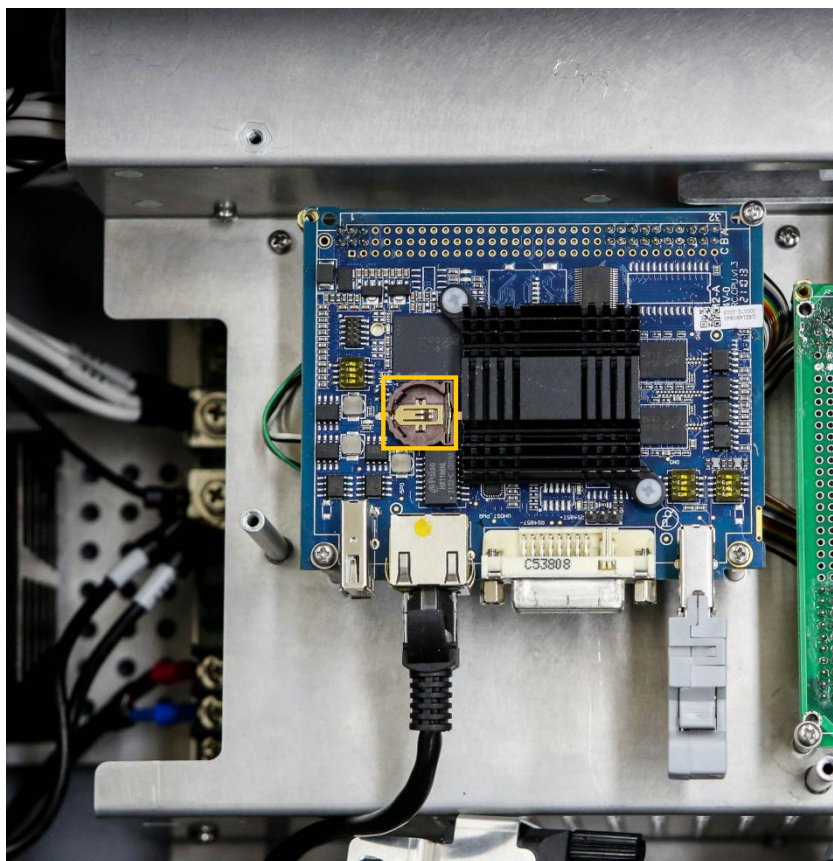

Figure 5-6 : Battery installation position
3. Use a Phillips screwdriver to remove the 5 fixing screws protecting the sheet metal on the core board, remove the sheet metal, and find the installation position of the 3V button battery on the core board, as shown in **Figure 5-6** .